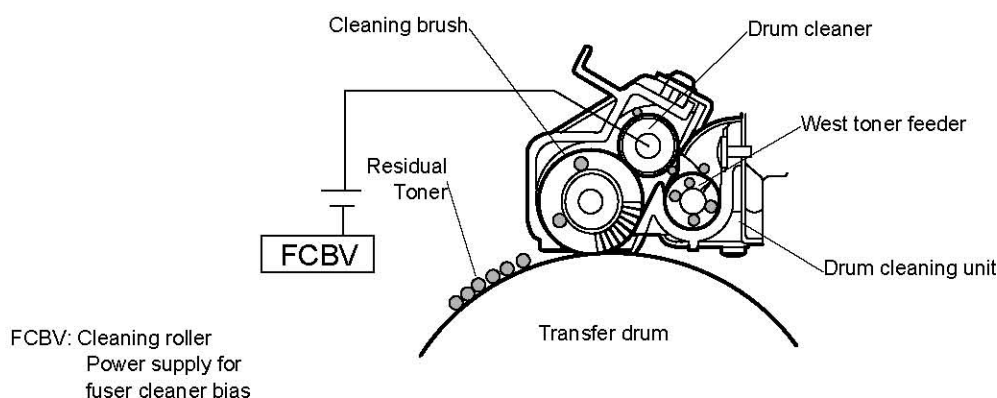

Fig. 4-23
- (1) Structure of Drum Cleaning (Refer to Fig.4-23.)
- iv) FCBV(V) is fed to the cleaning brush in contact with the roller and the cleaning brush is self-biased by the resistance of the brush.
- (2) Process of Drum Cleaning (Refer to Fig.4-23.)
- iii) The Drum cleaning roller has been biased to the positive voltage FCBV(V). As the cleaning brush rotates, the residual toner absorbed into the brush from the transfer drum is attracted by the positive FCBV(V) voltage on the roller and adheres to the surface of the drum cleaning roller.